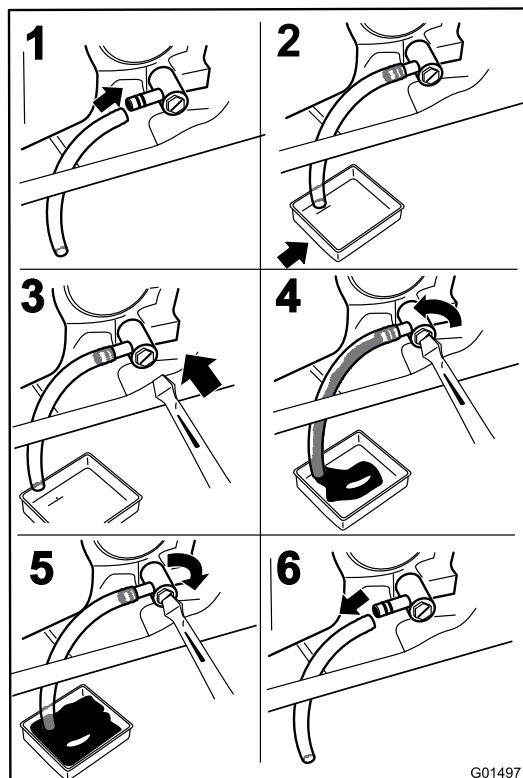

Figure 35
3. Stop the engine, remove the key, and wait for all moving parts to stop before leaving the operating position (Figure 35).